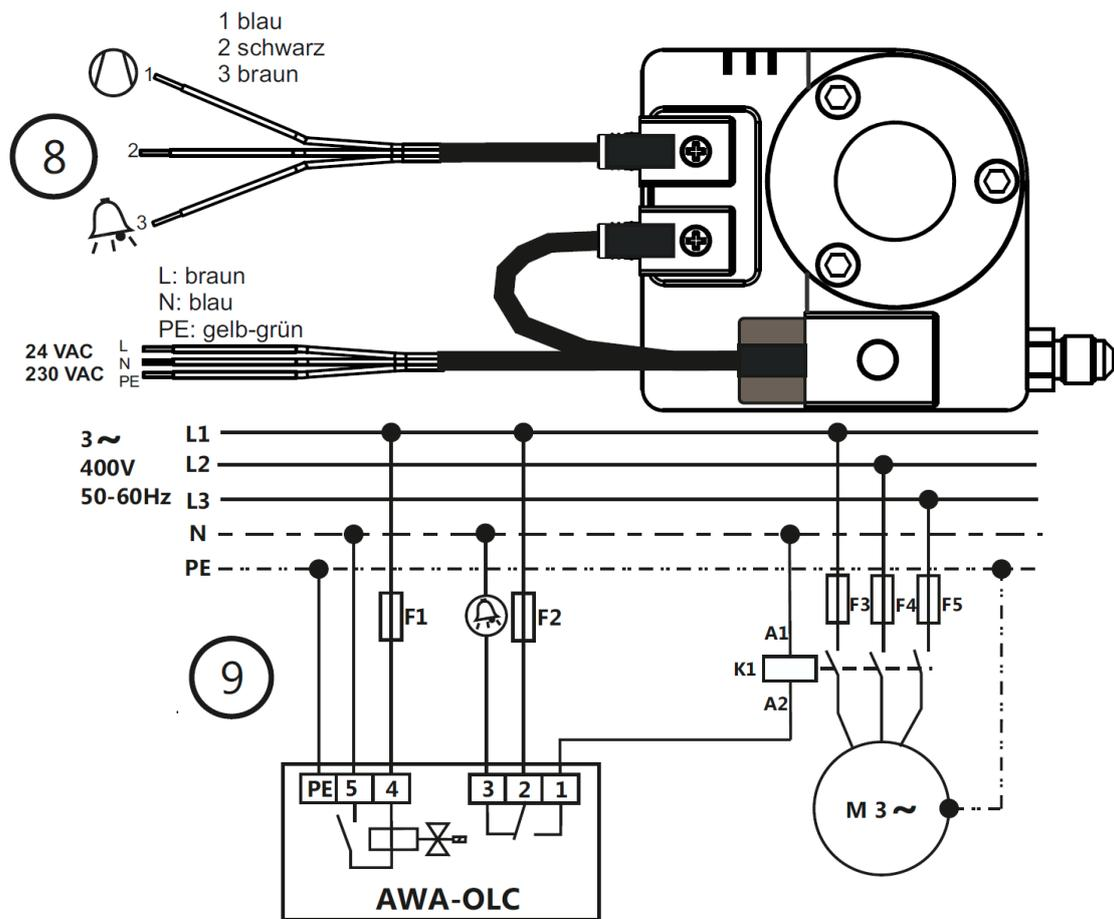

Fig. 5: Electrical connection
6. Take the removal space for the coil into account (Fig. 5).